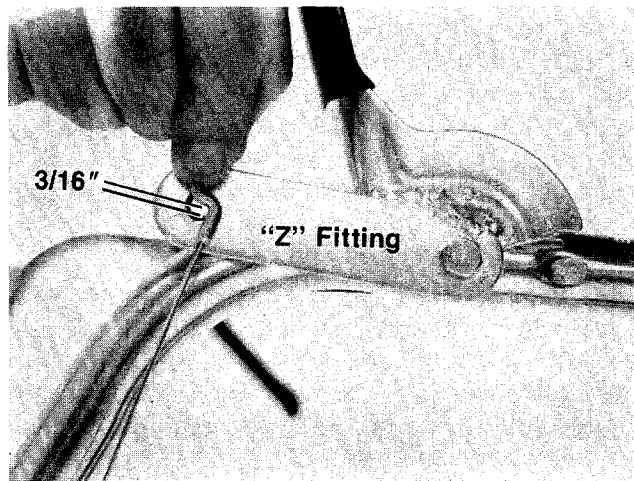

FIGURE 5.
3. Place the clutch grip on the left handle in the raised position. Hold the "Z" end of the cable against the clutch grip as shown in figure 5. Adjust the lower hex nut (underneath the cable bracket) so that the middle of the "Z" fitting is $3/16$ " above the bottom of the hole on the clutch grip as shown in figure 5.